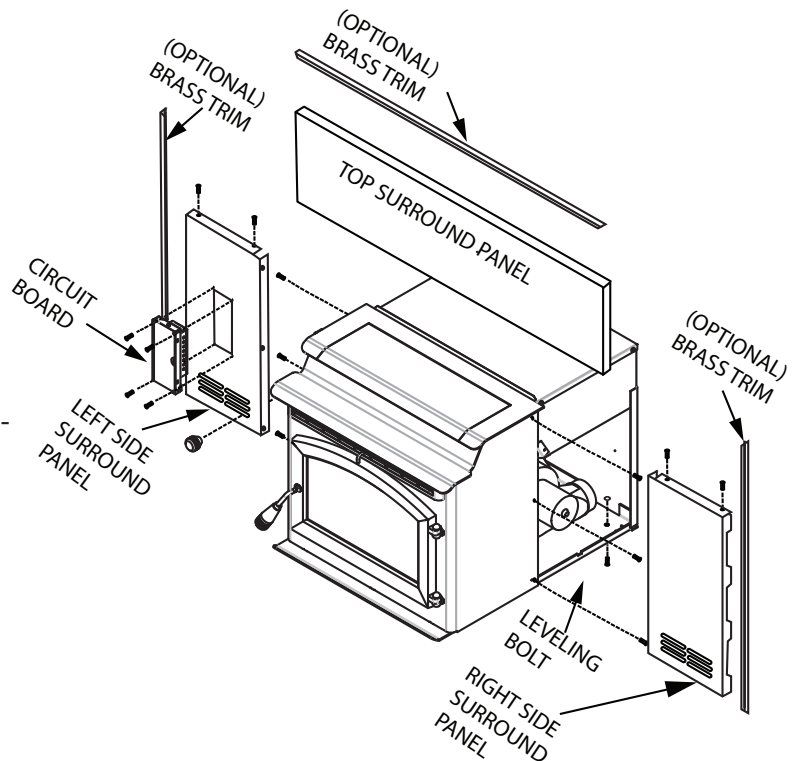

FIGURE 15
Follow the instructions packaged with the SP23 Flashing set part C-P23-MEDFL-C or C-P23-LGFL-C. (Refer to Figure 15)
4. Attach flashing (refer to Figure 15), route power cord out the side nearest a 120V receptacle. Slide in insert.
6. Attach flashing (refer to Figure 15), route power cord out the side nearest a 120V receptacle. Slide in insert.